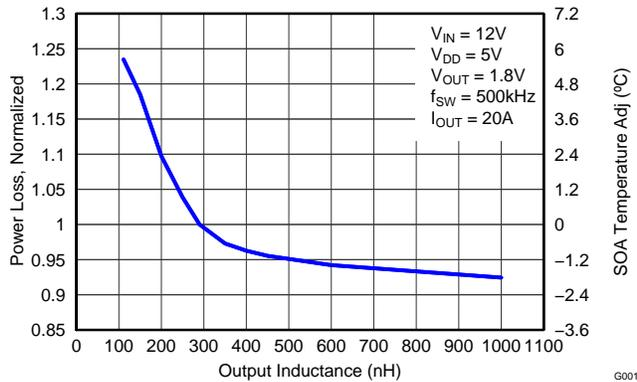

Figure 11. Normalized Power Loss vs Output Inductance
- Normalized Power Loss for output inductor \approx 1.10 (Figure 11)
- SOA adjustment for output inductor \approx 2.3°C (Figure 11)